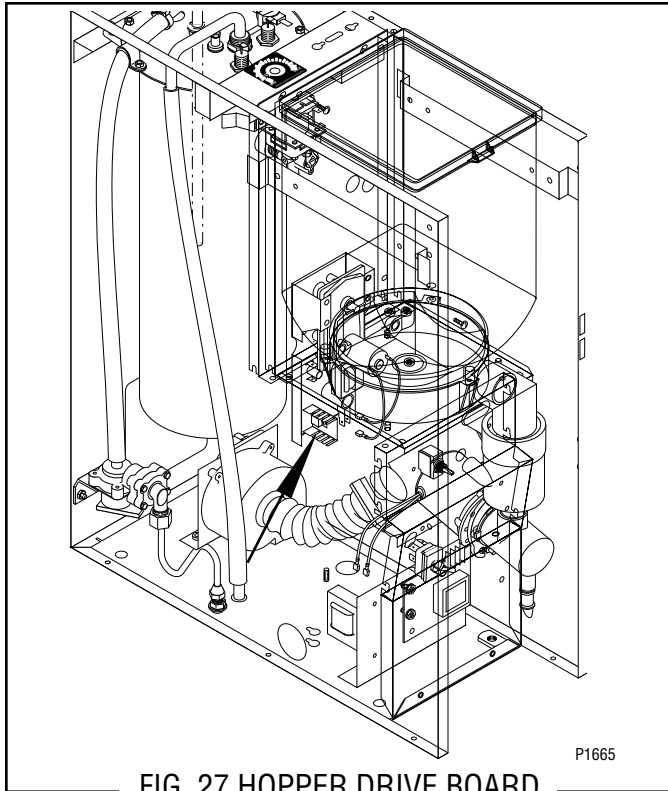

FIG. 27 HOPPER DRIVE BOARD
6. Pull the frother (6) off the motor shaft. Notice the flat side on the shaft and the matching flat inside the frother. It is important that these two flats are lined up when reassembling.
7. Slip the o-ring (5) off the whipper chamber receptacle (8).
9. Remove the two nuts (7) securing whipper chamber receptacle (8) and whipper motor (10) to the front panel.
- NOTE:** To remove the receptacle only, rotate clockwise until the receptacle clears the nuts (7) and slides off of the motor shaft.
11. Slide the slinger (9) off of the motor shaft.
13. Install new motor (10) on rear of front panel and secure with two nuts (7) and connect black leads on the motor to the main wiring harness. Refer to Fig. 27 when reconnecting wires
14. Slide slinger (9) onto the motor shaft flush against the front panel.
17. Slide whipper chamber receptacle with seal (8) and o-ring (5) on to the motor shaft.
18. Rotate the receptacle with seal (8) counterclockwise until it snaps into place on the motor mounting nuts (7).
19. Push frother (6) onto the motor shaft, making sure the flat in the frother (6) lines up with the flat on the motor shaft.
20. Install whipper chamber (4) on the whipper chamber receptacle (8) by twisting counterclockwise until the tabs on the whipper chamber (4) lock with the tabs on the whipper chamber receptacle (8). Be sure dispense port is pointing down.
21. Install dispense tip (3) into the bottom of the whipper chamber (4).
22. Slip the mixing chamber (2) onto the mixing chamber water inlet tube far enough so the mixing chamber (2) will seat inside the whipper chamber (4).
23. Install the steam collector (1) onto the mixing chamber (2) by pushing down and toward the dispenser while twisting until the flange on the steam collector lines up with the slot in the front panel.
Removal and Replacement: (Refer to Fig. 27)